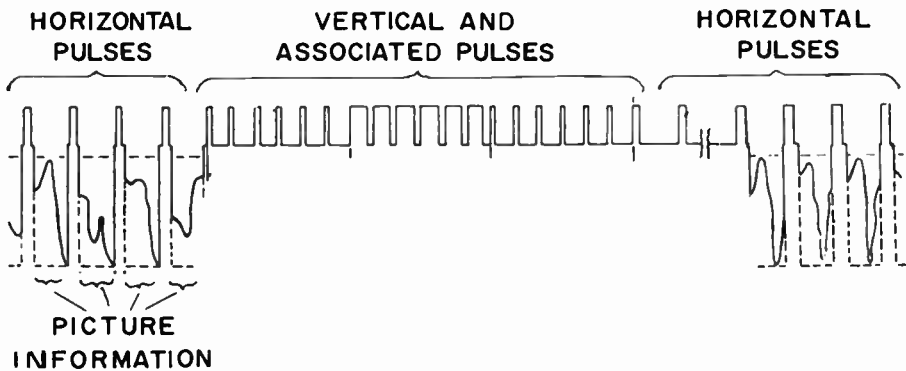

FIG. 20-4. TV SYNCHRONIZING PULSES.
When the beam reaches the end of a line, a pulse is inserted in the signal at the transmitter (and it is sent out to the receiver at the same instant). This pulse is known as a horizontal pulse. It triggers an oscillator that causes the beam to be shot back to the left hand side of the picture to start the next line. These horizontal pulses are shown in Fig. 20-4.
While the beam is moving from left to right and back, it is gradually being brought down to the bottom of the picture. After completing the last line at the bottom, a complex vertical pulse (see Fig. 20-4) triggers an oscillator that brings the beam back up to the top of the picture. These horizontal and vertical pulses that trigger the oscillators to start a new line or a new field at the transmitter, also trigger oscillators in the receivers to do exactly the same thing. Therefore, when the video transmitter is sending a piece of information in a particular part of the picture, the receiver's picture tube is reproducing that information in the exact same spot on the picture.
(3) Vertical pulse. The vertical pulse is very wide. See Fig. 20-4. It is broken up into six parts and is therefore called a serrated vertical pulse. It is broken up so that every other serrated segment can continue to trigger the horizontal oscillator and keep it synchronized during the vertical retrace.
(4) Equalizing pulses. See Fig. 20-4. The six narrow pulses in front of the vertical pulse and the six narrow pulses after the vertical pulse are called **EQUALIZING PULSES**. Their purpose is to insure the correct starting time for the vertical oscillator when the beam reaches the bottom of the scene. Since one field ends in the middle of a line and the other field ends at the end of the line, the timing of the vertical pulse would be slightly off without the equalizing pulses.
(5) Blanking pulses. Their function is to blank out the beam during retrace times.
(6) FM sound signal. A complete FM transmitter, similar to those described in lesson 16 transmits the audio.